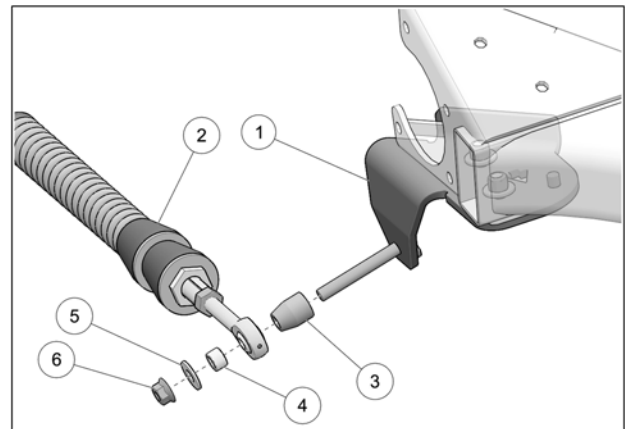

Fig. 12
- Attach stabilizing rod (**2**) to anchor bracket (**1**), using the long spacer bushing (**3**), short spacer bushing (**4**), flat washer (**5**) and nut (**6**). Torque to 70 N•m [52 lb•ft]. See Fig. 12